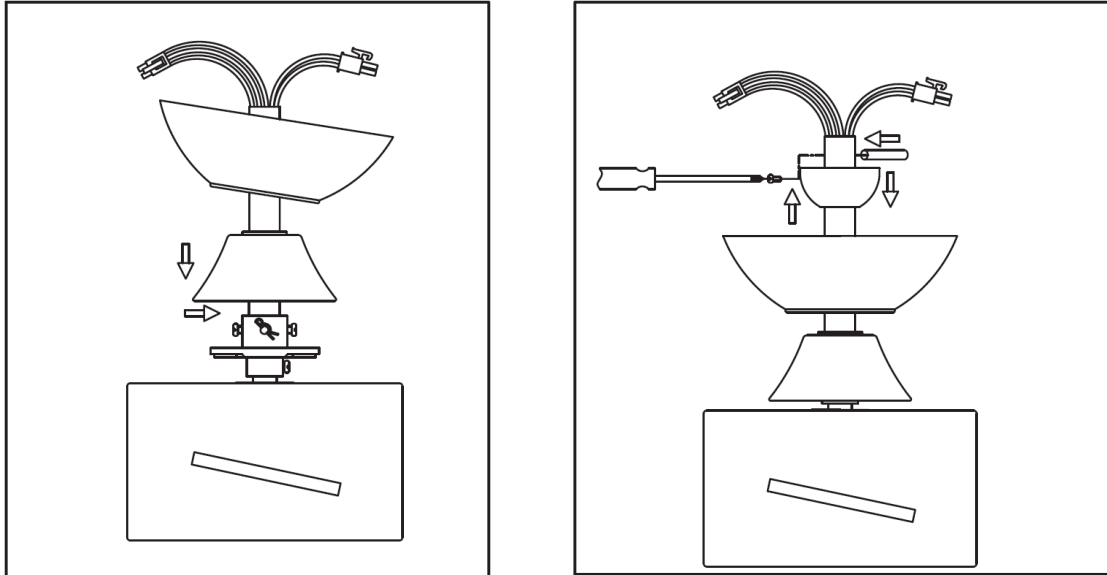

Afb. 4
**INSTALLATIE VAN DE VENTILATOR****INSTALLATIE VAN DE ONDERSTANG (afb.4)**